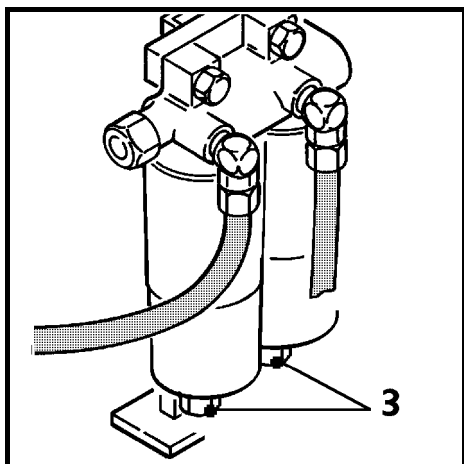

Fig. 1
Open the water separator drain valve (Fig. 1, pos 3) on the filter cartridge at the interval specified in the maintenance schedule.